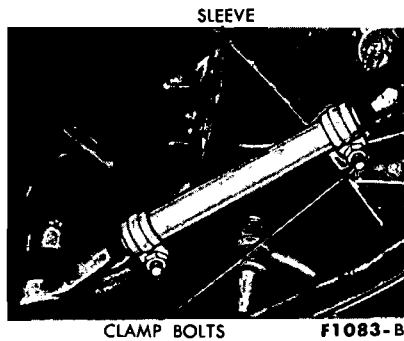

FIG. 8—Spindle Connecting Rod Sleeve—Typical
1. Loosen the two clamp bolts on each spindle connecting rod sleeve (Fig. 8).